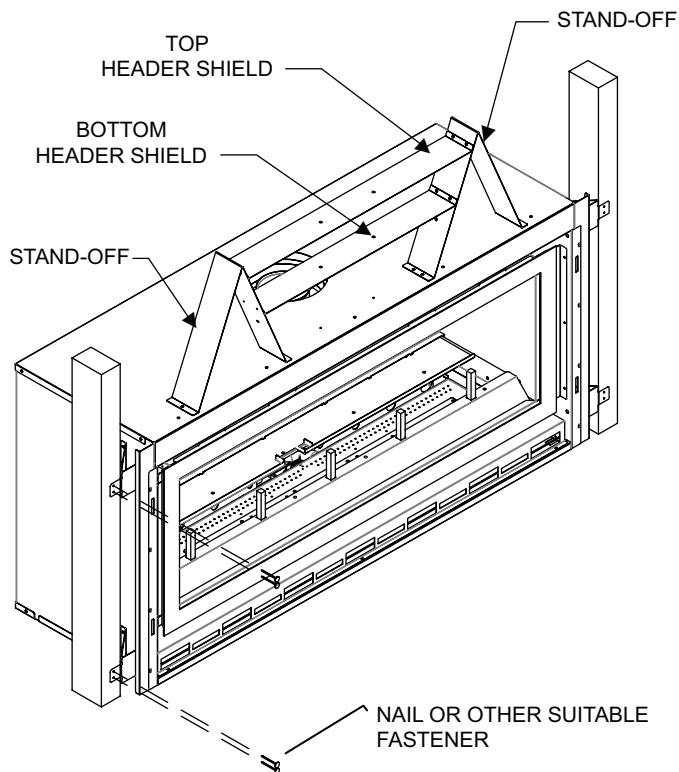

Figure 12
1. Locate the two (2) steel standoffs and two (2) header shields attached to the back of the fireplace.
2. Remove the two (2) screws that secure the standoffs and header shields in place; save the screws.
4. Bend the short tabs on each end the opposite direction. Secure the standoffs to the fireplace top with three (3) screws each from the hardware bag. There are pilot holes located in the top of the fireplace for each stand-off.
6. Locate the bottom header shield; it is the shorter one. Using four (4) screws, attach it between the standoffs.
7. Locate the top header shield; it is the longer one. Using four (4) screws, attach it between the standoffs. **See Figure 12.**
10. Attach the fireplace to the frame. **See Figure 12.**
The fireplace must extend 3/4 in. (19mm) beyond finished wall surface when using a flush mount mantel. Refer to Figure 12 to locate nailing flanges on fireplace sides. Mark and drill four (4) 1/8 in. holes into fireplace side to mount each nailing flange. Use eight (8) 1/2 in. hex-head screws supplied in hardware package to attach nailing flanges to fireplace sides.